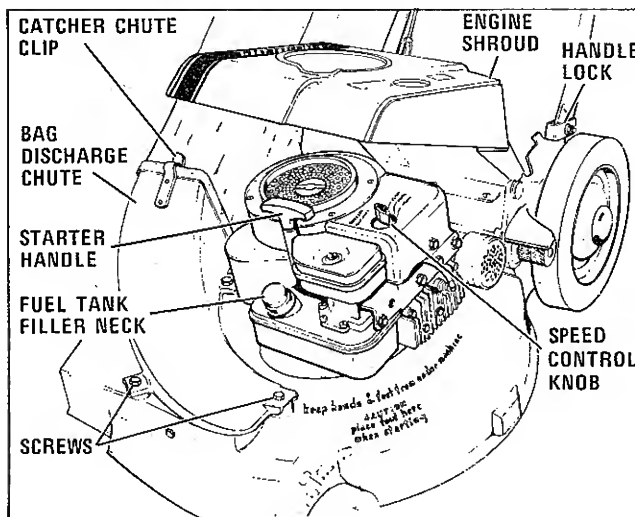

Figure 2
4. Install the grass catcher chute with 4 screws as shown in Fig. 2.
7. Stand on the right side of the mower and insert the bottom of open end of bag between lugs on deck and catcher chute. See Fig. 2.
1. Make sure the speed control is set at STOP. See Fig. 2.
To clear a flooded engine, rotate the speed control, Fig. 2, to the stop position. This blocks the choke open. Pull the starter 6 times or crank electrically for 6 seconds. Set the control at start and follow the steps under starting listed above.
Manual start engines should be stopped by rotating the speed control counter-clockwise to the stop position. See Fig. 2.